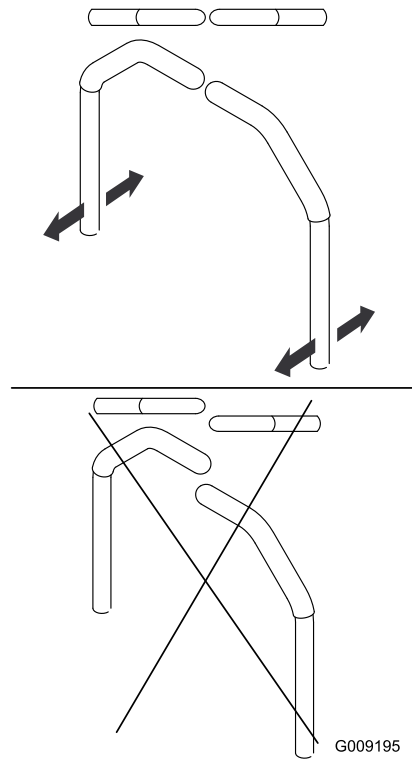

Figure 52
7. Align the levers in the front-to-rear position by bringing the levers together to the NEUTRAL position, and slide them until they are aligned, then tighten the bolts (Figure 52).